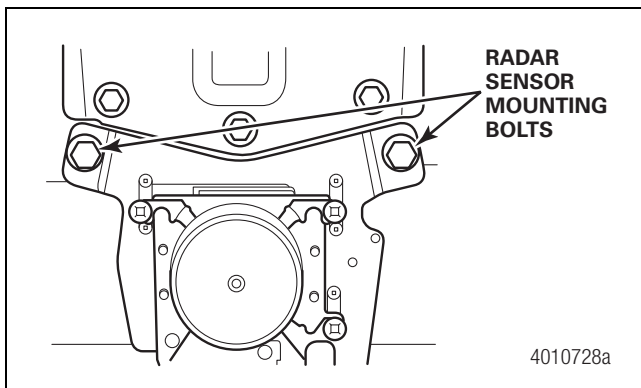

Figure 2
- Remove the mounting bolts from the radar sensor bracket and remove the bracket. Figure 2.